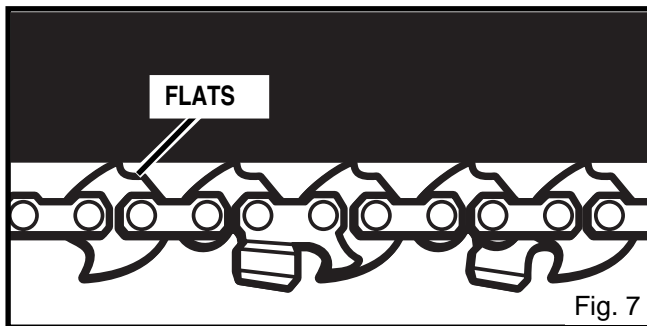

Fig. 7
2. Chain must be re-tensioned whenever the flats on the drive links hang out of the bar groove. See Figure 7.